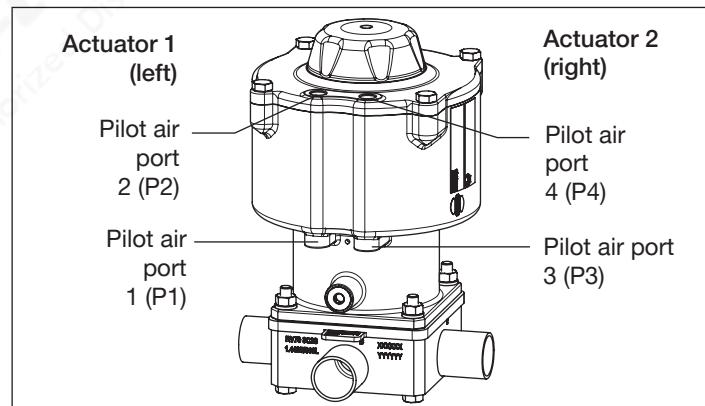

Fig. 24: Pneumatic connection
5) Actuator assignment see "Fig. 24".